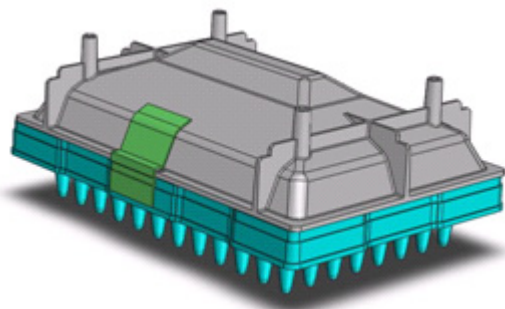

Figure 31 The SOLiD™ Emulsion Collection Tray taped to a 96-well reaction plate.
1. Place the SOLiD™ Emulsion Collection Tray on top of the ePCR 96-well plate (see Figure 31).